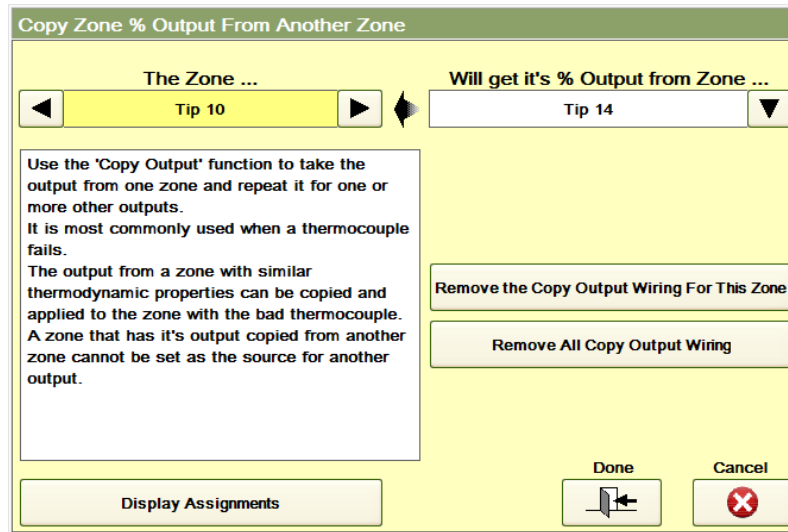

Figure 19c Copy Zone % Output
Copy Output: Press this button to display the screen shown in Figure 19c. This feature is most commonly used when a thermocouple has been lost or if no thermocouple exists. The output percentage of any zone can be used on additional zones. In the example shown in Figure 13j, the output percentage of Zone 10 can also be used for Zone 14 using the following procedure:
- 1) Select the zone whose output is to be copied (Tip 10 in Figure 19c).
- 2) Select the zone the output percentage is to be copied to (Tip 14 in Figure 19c).